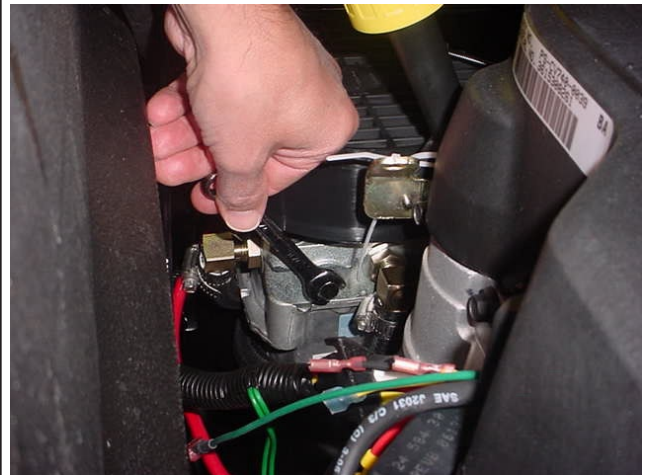

Figure 6-4
1. From just in front of the engine and just behind the seat, locate the transmission bypass valves. Refer to Fig. 6-4.